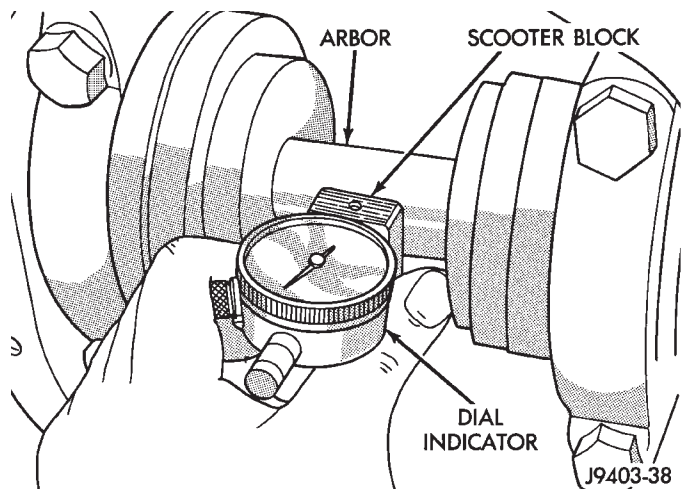

Fig. 69 Pinion Gear Depth Measurement—Typical
(8) Slide the dial indicator probe across the gap between the pinion height block and the arbor bar with the scooter block against the pinion height block (Fig. 69). When the dial probe contacts the arbor bar, the dial pointer will turn clockwise. Bring dial pointer back to zero against the arbor bar, do not turn dial face. Continue moving the dial probe to the crest of the arbor bar and record the highest reading. If the dial indicator can not achieve the zero reading, the rear bearing cup or the pinion depth gauge set is not installed correctly.